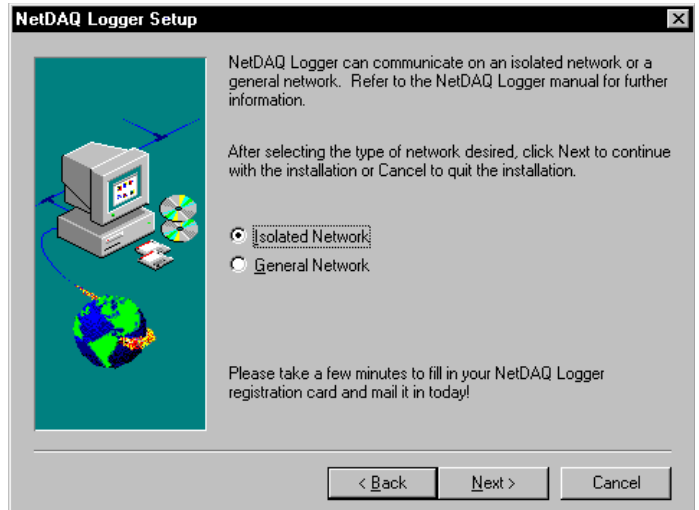

Figure 4.
2. Click Next to accept the default of Isolated Network (Figure 4).